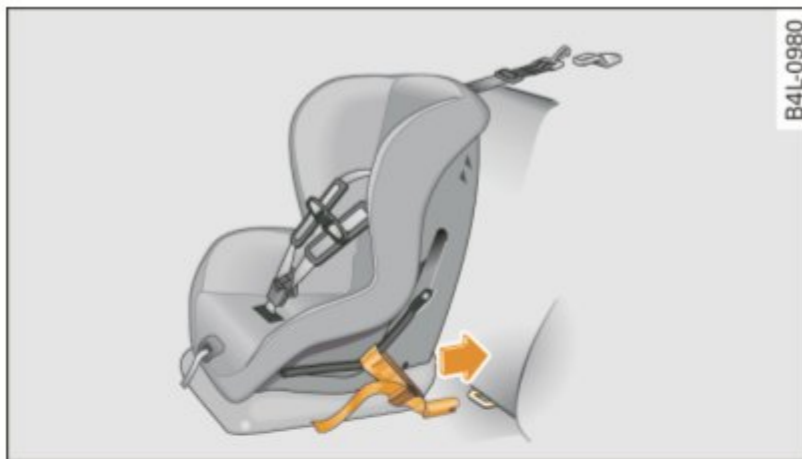

Fig. 201 Lower anchorages: proper mounting
- Attach both hook-on connectors with the spring catch release on the child safety seat onto the LATCH lower anchorage so that the connectors lock into place ⇒ fig. 201.